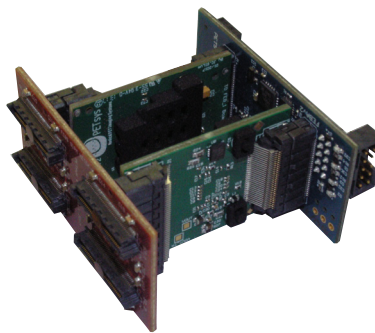

Figure 3: FEM128 module.
The evaluation kit comes with a FEB/D board with Ethernet link to the computer, and two FEM128 front end modules (Fig. 3). Each FEM128 has two ASICs reading 64 channels each. The FEM128 modules have connectors that directly accept the Hamamatsu S13361- 3050Ax-08 8x8 MPPC array, or the KETEK PA3325-WB-0808 array. With a suitable adapter board, the FEM128 will equally well read analog SiPM arrays from other vendors.
1. Two FEM128 modules (Fig. 3), and two cables for connecting the modules to the FEB/D board.